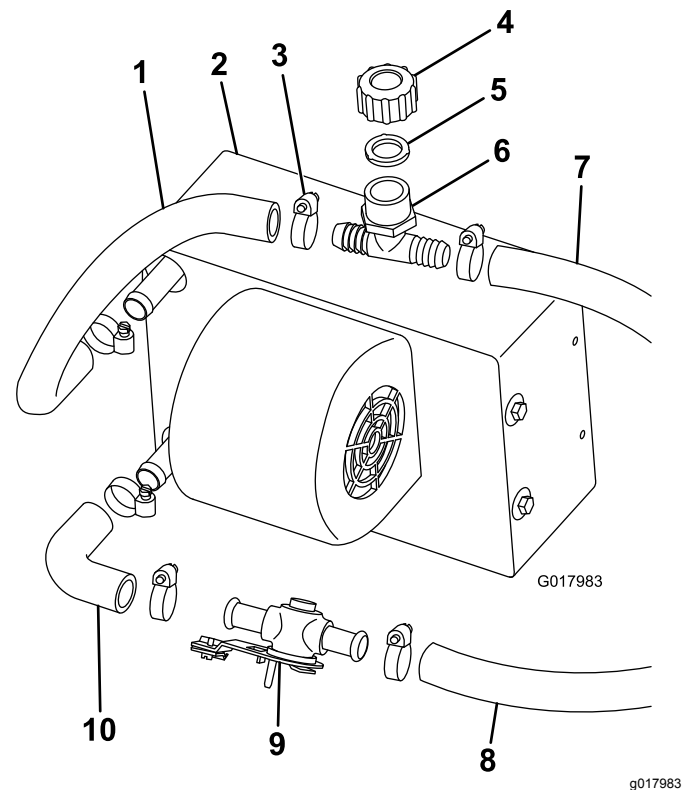

Figure 19
1. Attach the elbow hose to the bottom fitting of the heater assembly with a hose clamp (Figure 19).
2. Connect the heater valve to the elbow hose with a hose clamp (Figure 19).
3. Cut a 36 cm or 14 inch piece of hose (5/8 inch) and attach it to the top fitting of the heater assembly with a hose clamp (Figure 19).
4. Connect the white fill tee, gasket, and cap to the upper heater hose with a hose clamp (Figure 19).